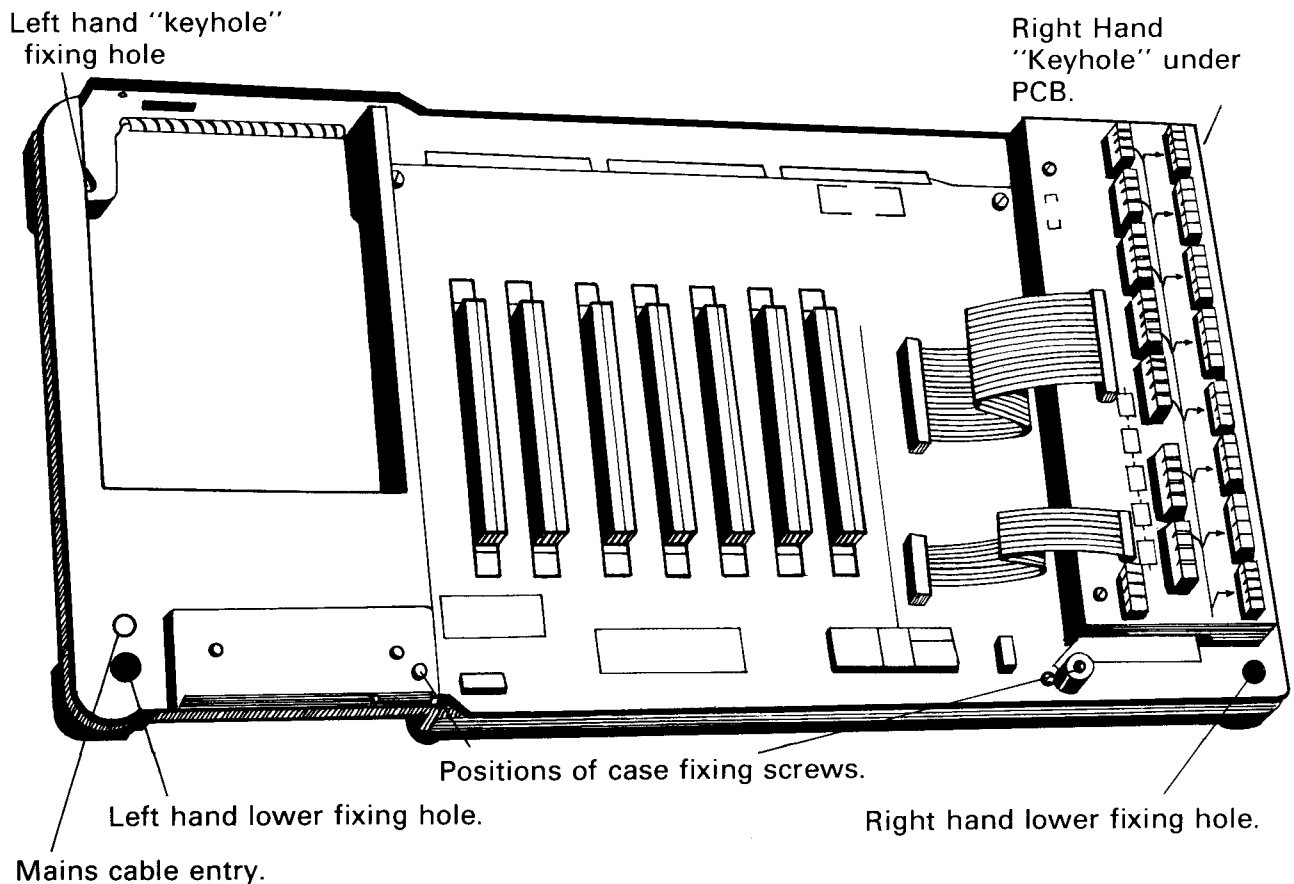

Fig. 2. Rear Mounting Assembly.
The Rear Mounting Assembly, see Fig. 2, contains the "Backplane" which is the main printed circuit board (PCB) carrying the microprocessor circuitry, sockets for up to seven Lines /Intercom ASUs and a secondary PCB which carries the termination blocks for exchange line and extension cable terminations. The CCU **must never** be transported with the Power Supply Unit in position as this will strain the mounting lugs and so cause damage.
- iii. With the cover removed, remove the two screws holding the case to the rear mounting, see Fig. 2.
- vi. Feed the free end of the mains cable through the entry hole in the rear mounting assembly from the rear, see Fig. 2. Leave about 220mm of cable free at the front of the mounting assembly.